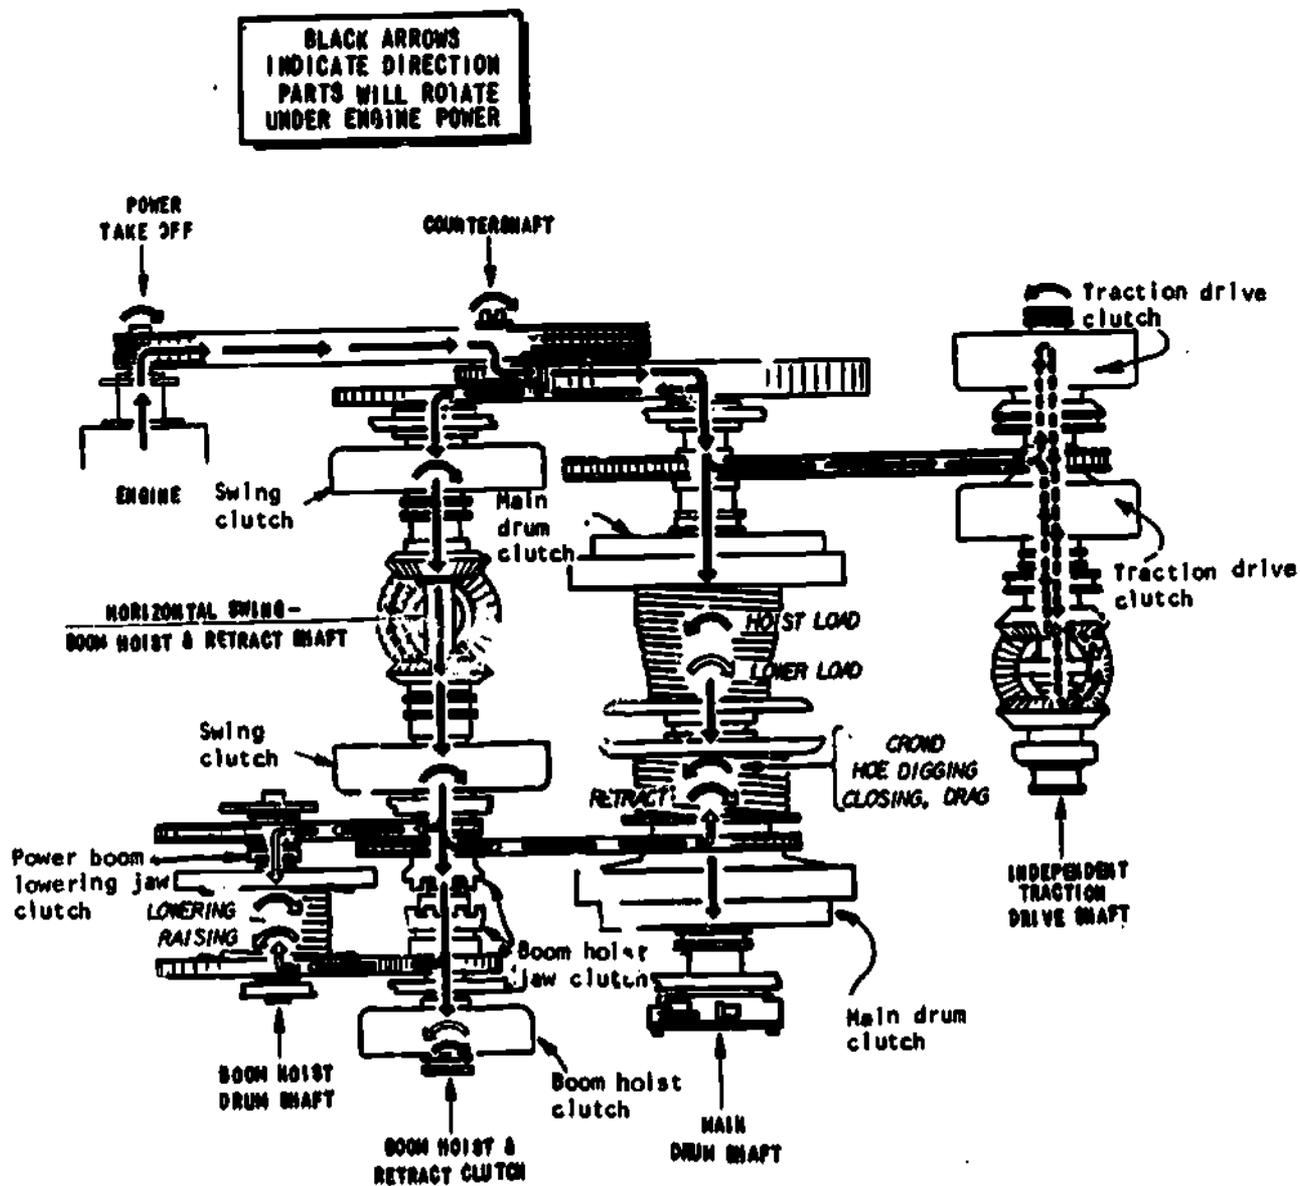

Fig 3-11, 2N crane-shovel power flow and location of clutches.
- (3) 2N crane-shovel. The clutches used to control the power flow to the attachments of the 2N crane-shovel are internal-expanding and jaw type. The brakes are external-contracting. The boom hoist is equipped with a ratchet pawl in addition to a brake. The jaw clutches (fig 3-11) are used to shut the power flow from the boom hoist clutches to the retract clutch.